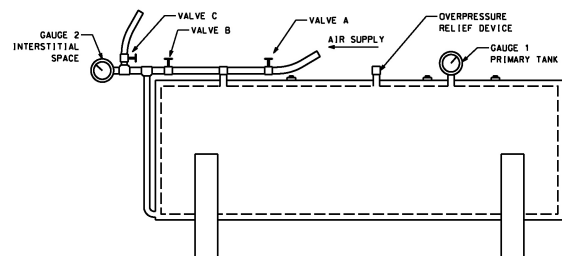

FIGURE 2
3.2.2.2 Install test piping as shown in Figure 2. Temporarily plug, cap or seal off remaining tank openings to hold pressure.
- 3.2.2.4 Connect regulated test air supply line to test piping as shown in Figure 2.